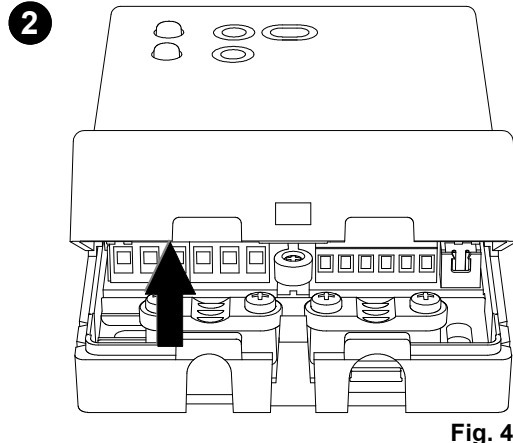

Fig. 4
- ② Rotate the cable lid and remove it completely (Fig. 4).